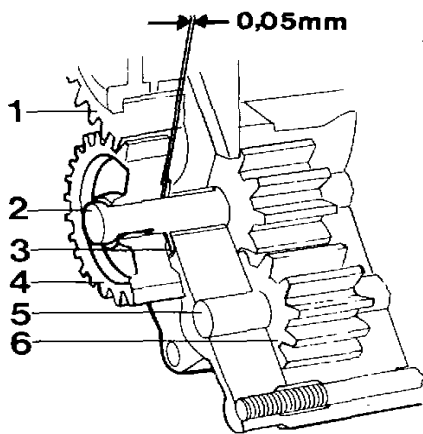

Fig. 105. Oil pump (standard)
4. Place the axial washer (3, fig. 105) on the shaft journal (a new axial washer is included in the repair kit). Fit the key and press on the drive gear. NOTE! There should be a clearance of 0.02–0.08 mm (0.001–0.003") between the axial washer and gear. A 0.05 mm (0.002") feeler gauge should be placed in the gap when fitting.
5. Fit the idler gear (6), and the pump housing. Tighten the pump housing to the bracket. Check that the pump can be rotated easily by hand.